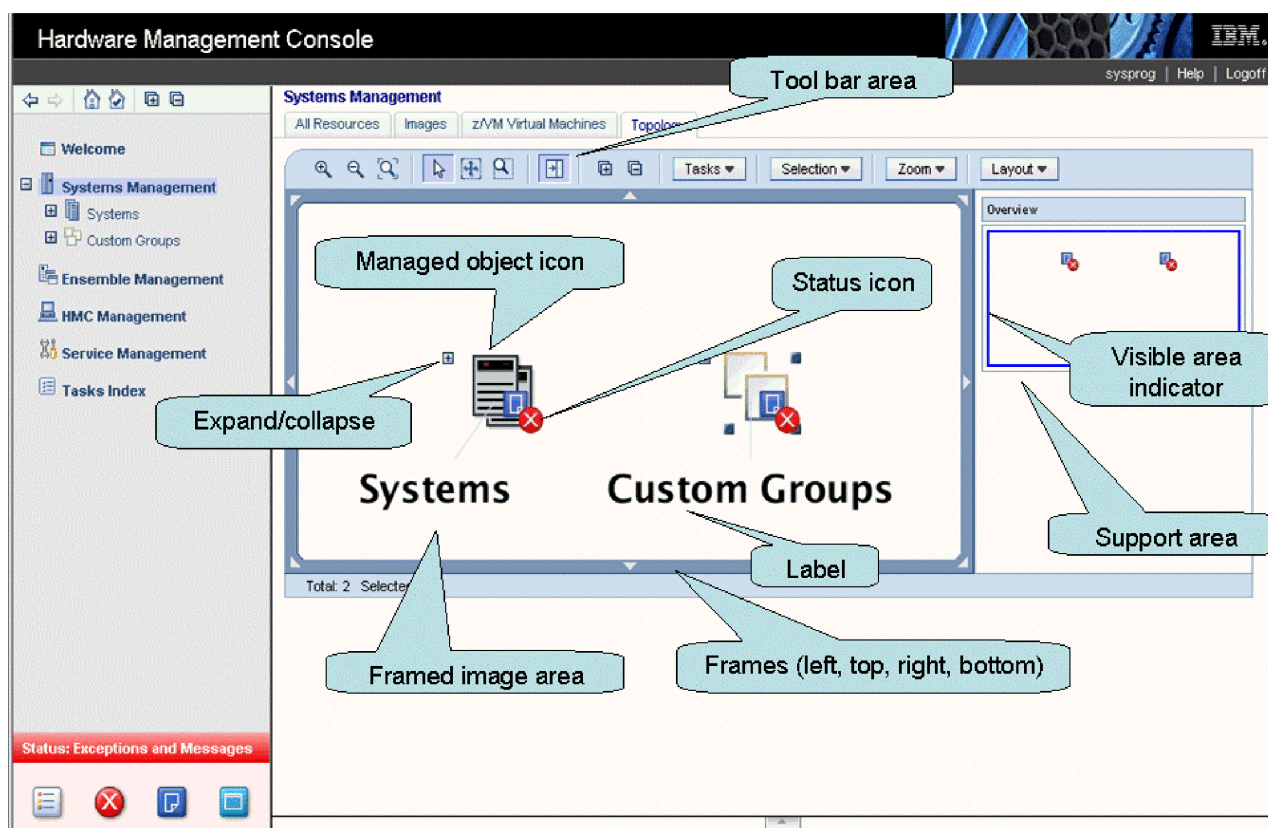

Figure 30. Topology view features
The information that is displayed from the **Topology** tab is a graphical relationship-based view of the objects. It is composed of the Toolbar, Framed image, and Support areas, some of which are identified in Figure 30 on page 42.
- Toggle Support Area Visibility icon - toggles the visibility of the support area, which displays the image Overview (see Figure 30 on page 42).